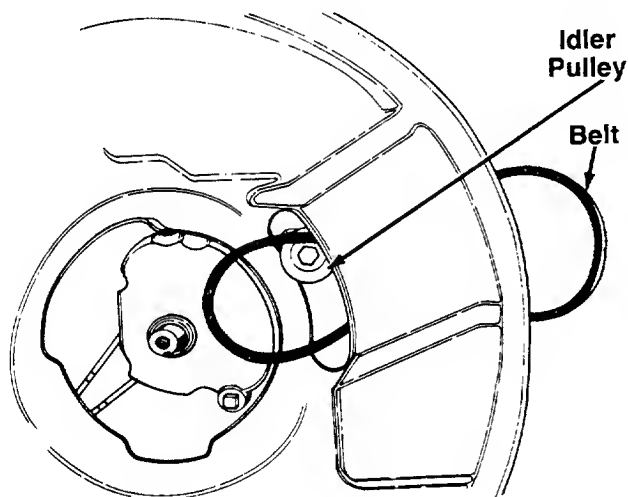

FIGURE 20.
- A. Push the idler pulley up out of the way as shown in figure 20.
- B. Slide the belt in from the rear of the deck, and place it around the transmission pulley. See figure 20.